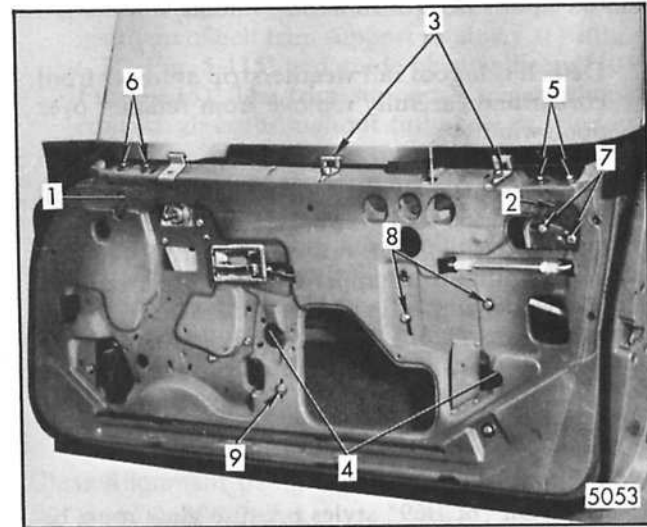
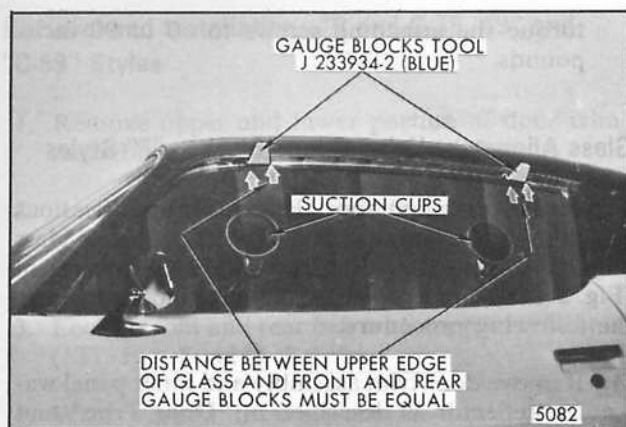
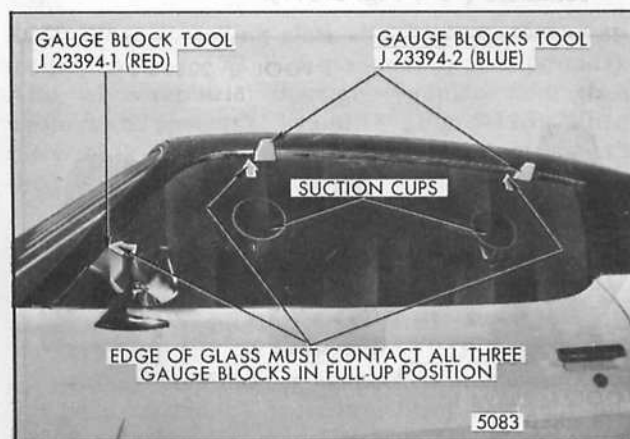

Fig. 5-117-Window Removal and Adjustment - "F" Styles
Fig. 5-119-Door Window - Rotated ("Cocked") Glass Alignment - "F" Styles
Fig. 5-120-Door Window - Fore and Aft Alignment - "F" Styles
1. **WINDOW NOT PARALLEL WITH SIDE ROOF RAIL WEATHERSTRIP** - A rotated window condition (glass cocked in opening) can be corrected by loosening front and rear up-travel stops ("1" and "2", Fig. 5-117) and inner panel cam screws ("8", Fig. 5-117) and raising or lowering front edge of glass in relation to rear edge of glass as required. Then tighten inner
2. **WINDOW TOO FAR INBOARD OR OUTBOARD ALONG UPPER EDGE** - Loosen upper ends of front and rear guides ("5" and "6", Fig. 5-117) and glass belt trim support retainers ("3", Fig. 5-117) and position guide inboard or outboard as required. Outboard adjustment of the guide moves the upper edge of the glass inboard. Conversely, inboard adjustment moves the upper edge of the glass outboard. With glass in a full-up position, position trim support retainers against inner surface of glass and tighten attaching screws. Torque all previously loosened hardware attachment components to 60 to 90 inch-pounds. Make sure that when glass is cycled, it does not come in contact with the blow-out clip.
3. **WINDOW TOO HIGH OR LOW IN UP POSITION** - Loosen front and rear up-travel stops ("1" and "2", Fig. 5-117) and operate window to desired position to establish proper glass to side roof rail weatherstrip contact. Position up-travel stops to contact stops on glass and torque up-travel stop screws to 60 to 90 inch-pounds.
4. **WINDOW TOO HIGH OR LOW IN DOWN POSITION** - Loosen down-travel bumper support ("9", Fig. 5-117) and lower or raise window to desired full-down glass height. Then position bumper support against lower edge of glass and torque attaching screw to 60 to 90 inch-pounds.
5. **WINDOW TOO FAR FORWARD OR REARWARD** - Loosen upper end of rear guide ("7", Fig. 5-117) and reposition glass as necessary. Because the roller assembly (bellcrank) which attaches to the glass at the front pivots, the front guide does not have to be adjusted during fore and aft window alignment. Torque guide attachments to 60 to 90 inch-pounds.
6. **WINDOW MECHANISM BINDS WHEN OPERATING** - Ease of window operation and window stability depends a great extent on the adjustment of the window belt trim support retainers at the beltline ("3", Fig. 5-117). The support retainers should contact the glass throughout the full cycle of the window. However, in some cases due to the slight variations in glass contour, the strip may lose contact with the glass halfway through the cycle. This is permissible provided it does not result in loose glass or restrict ease of window operation. After the belt trim support retainers have been adjusted,
3. With glass in a partially down position, install gauge blocks, tool J-23394-2 (blue) or equivalent, into side roof rail weatherstrip retainer above upper front and rear corners of the glass as shown in Figure 5-119. Then, install glass suction cups on interior surface of glass (Fig. 5-119) to enable adjuster to shift glass when making adjustments with door in a closed position.
**NOTE:** When installing gauge blocks (blue) or equivalent into upper retainer on "F" styles, handle portion of blocks must protrude outboard (Fig. 5-119). Also, grooves on sides of blocks must be fully engaged with side roof rail weatherstrip retainer.
4. Working from inside body, with door in a closed position, loosen front and rear up-travel stops ("1" and "2", Fig. 5-117) and belt trim support retainers ("3", Fig. 5-117).
5. Raise door window to approximately 1" from full-up position as illustrated in Figure 5-119. If distance (space) between upper edge of glass and front and rear gauge blocks is equal (as shown in Fig. 5-119), proceed with step 6. If distance (space) between upper edge of glass and both upper gauge blocks is not equal loosen inner pannel cam attaching screws ("8", Fig. 5-117) and adjust as necessary.
6. Lower glass and install gauge block, tool J-23394-1 (red), or equivalent into the windshield pillar retainer slightly above the beltline (Fig. 5-120).
If upper and forward edge of glass contacts all three gauge blocks at the same time (as shown in Fig. 5-120), proceed with step 7. If upper and forward edge does not contact all three gauge blocks simultaneously, loosen fore and aft adjustment on rear guide ("7", Fig. 5-117) and move glass forward or rearward until edge of glass contacts all three gauge blocks in full-up position.
7. Completely loosen upper and lower ends of front and rear guides ("5" and "6", Fig. 5-117). Apply firm outboard pressure against upper end of front guide to remove slack in system and to hold upper inner edge of the glass inboard against outer edge of tab on gauge block. Then tighten front guide upper, then lower attaching screws. Repeat operation with rear guide. Guides will now be coordinated to plane of glass.
8. With glass in full-up position against gauge blocks, tighten up-travel stops ("1" and "2", Fig. 5-117) and adjust belt trim support retainers ("3", Fig. 5-117) outboard for light contact.
2. Remove front and rear up-travel stops ("1" and "2", Fig. 5-117).
3. Loosen front and rear belt trim support retainers ("3", Fig. 5-117).
4. With window in three-quarter-down position, remove lower sash channel cam to glass attaching nuts ("4", Fig. 5-117). Remove window by lifting straight up and aligning rollers with notches provided in the door inner panel.